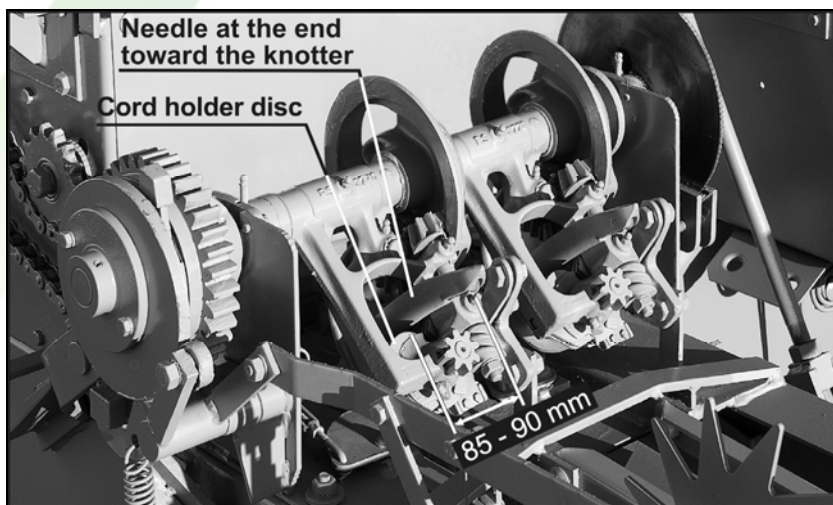

Fig. 18
B) When the needles are at the end toward the knotter (Fig. 18).